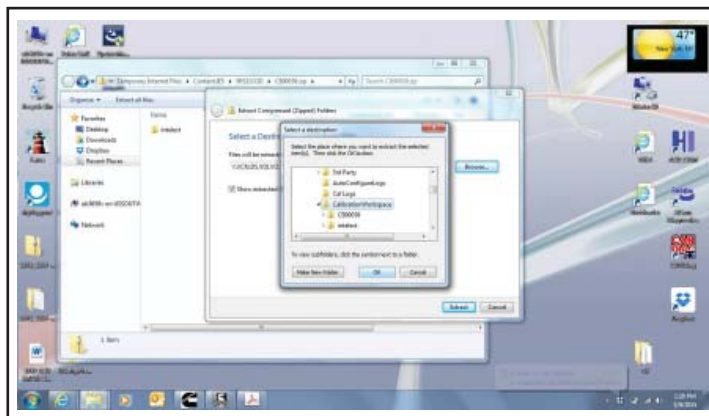

Figure 12 - Finding the Saved File
1.12. Click on calibration work space and saved file should be there. See Figure 12.